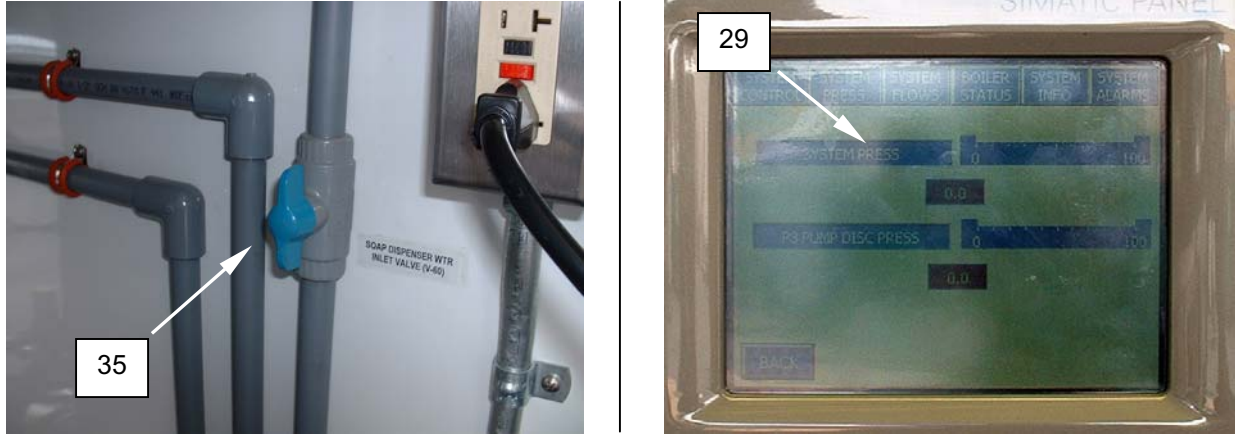

Figure 21. Complete Air Purge.
7. Open soap dispenser water inlet V-60 (Figure 21, Item 35).
8. Wait for system pressure to read "0" at PLC (Figure 21, Item 29).